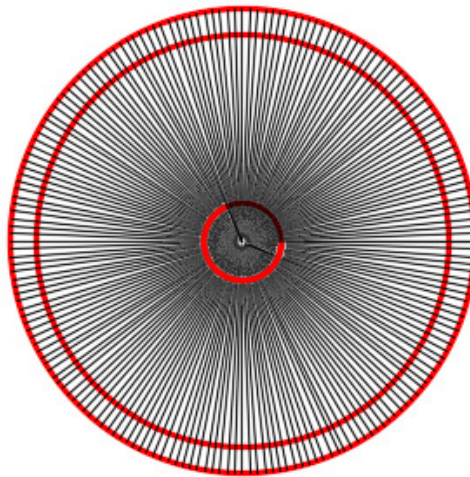

Figure Step 5
Step 5 Using the ARRAY command, array the construction line 192 times around. Use the center of the circle as the basepoint for the array. (Figure Step 5)